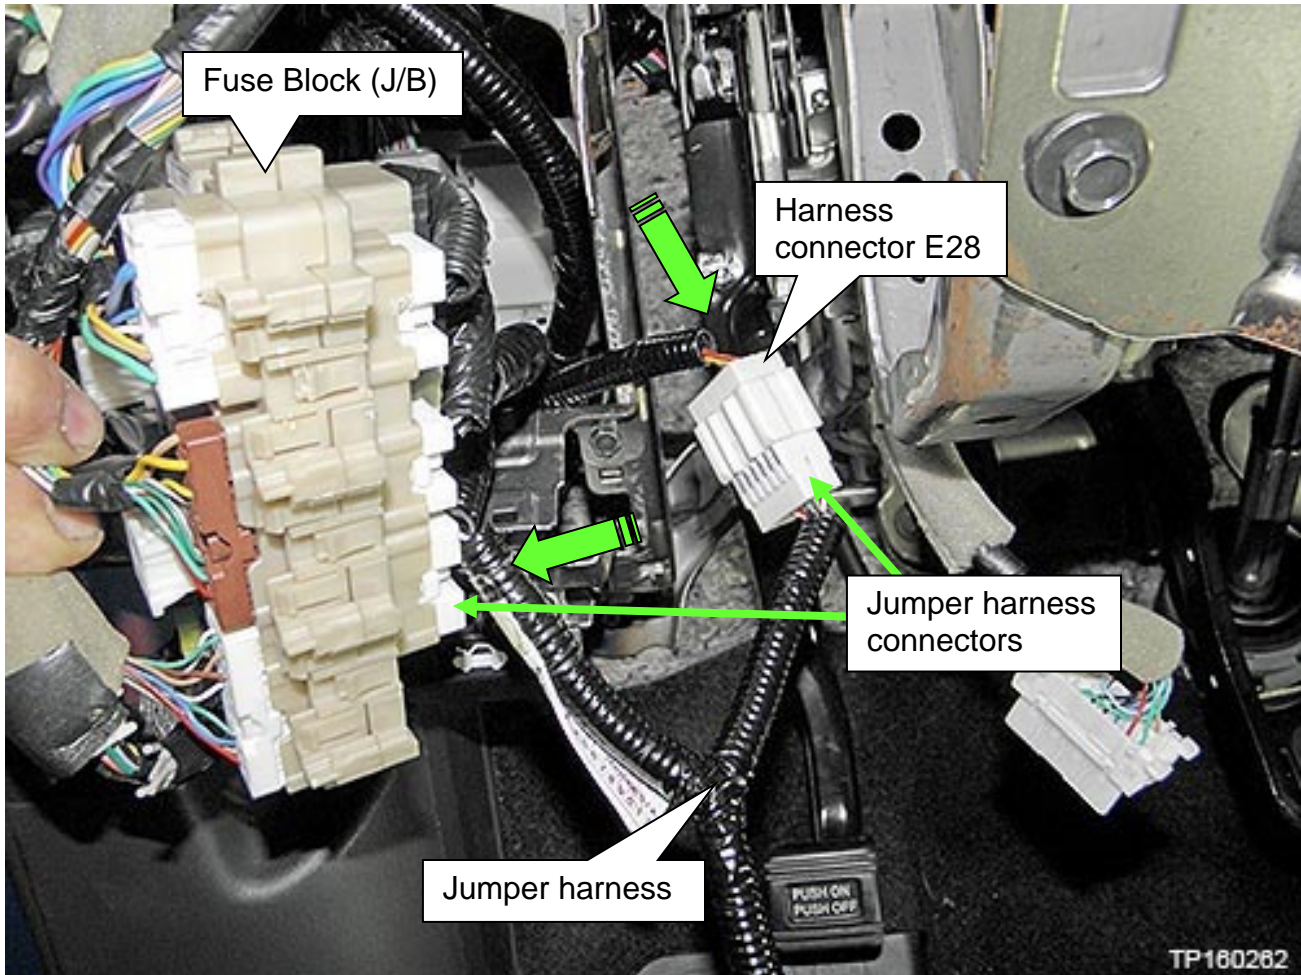

Figure 5
3. Connect jumper harness (part #: 24167-9PB1E) between Fuse Block (J/B) and harness connector E28 (Figure 5).